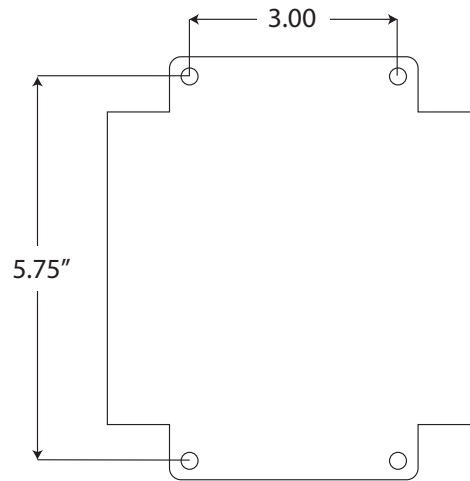

Figure 2: Sentinel mounting dimensions
- 1) Install four drywall anchors (if necessary). Attach the Sentinel using four #8 tapping screws. See Figure 2 for dimensions.